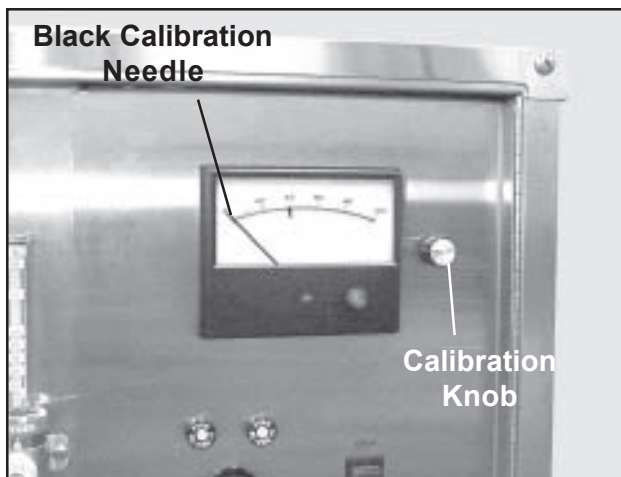

Figure 81. Oxygen Concentration Meter and Calibration Knob
Note: Watch the oxygen concentration meter (Figure 81) as you perform *Step 5*. The black calibration needle moves to the right, then settles down.
3. Using the calibration knob (Figure 81), position the black needle in the oxygen concentration meter to 20.5% (the percentage of oxygen in atmospheric air).